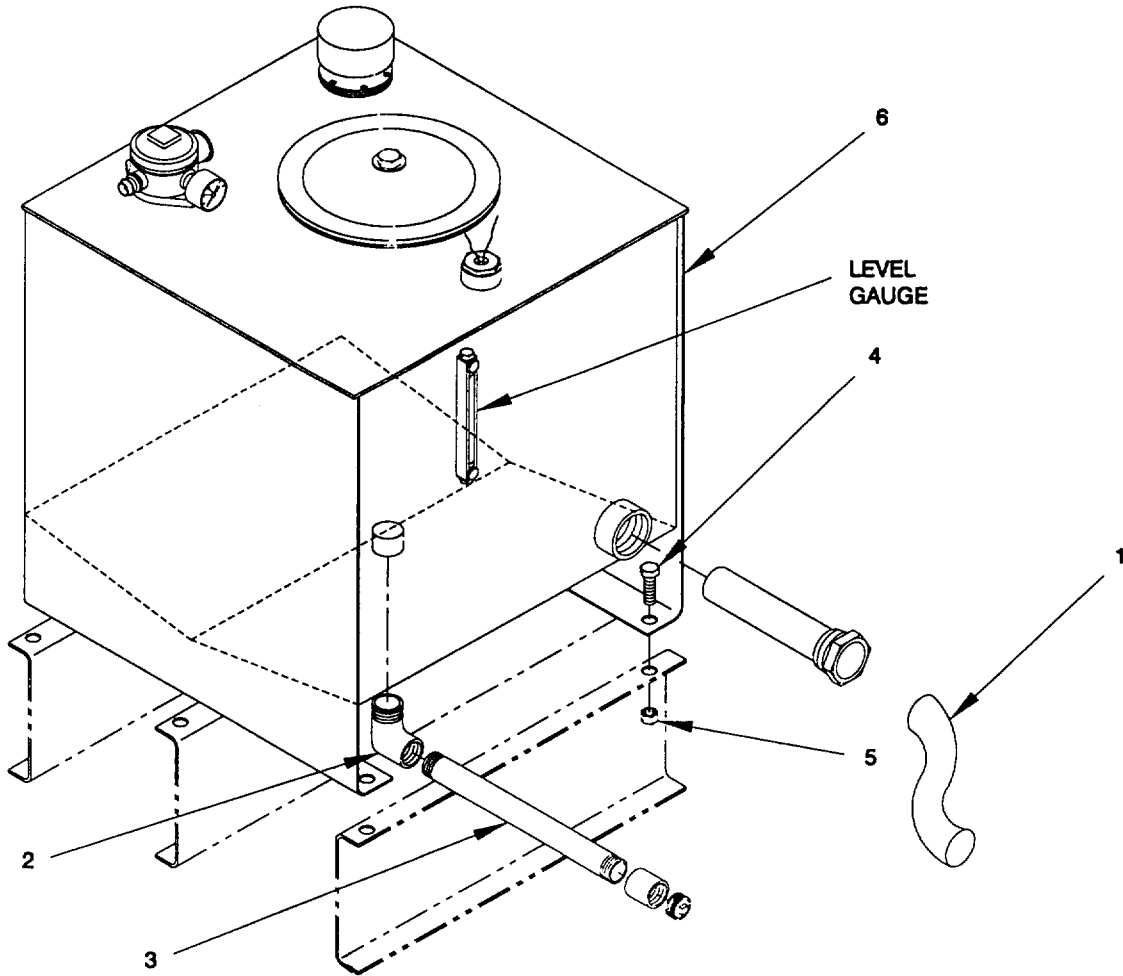

Figure 2-26. Hydraulic Reservoir, Remove/Install
2-33. Hydraulic Reservoir (Cont).c. Remove. (figure 2-26)
f. Install. (figure 2-26)
- (1) Position new hydraulic reservoir (6) and secure with six hex head capscrews (4) and six hex nuts (5).
- (2) Apply sealant to pipe threads on pipe nipple (3) and 90° male elbow (2). Install pipe nipple (3), 90° male elbow (2) and hose assembly (1) on hydraulic reservoir (6).
- (3) Fill hydraulic reservoir with hydraulic fluid. Refer to paragraph 2-28 for filling procedures.
- (4) Prime hydraulic pump and vent air from system. Refer to paragraph 2-28.
- (5) Wipe up any hydraulic fluid spillage.